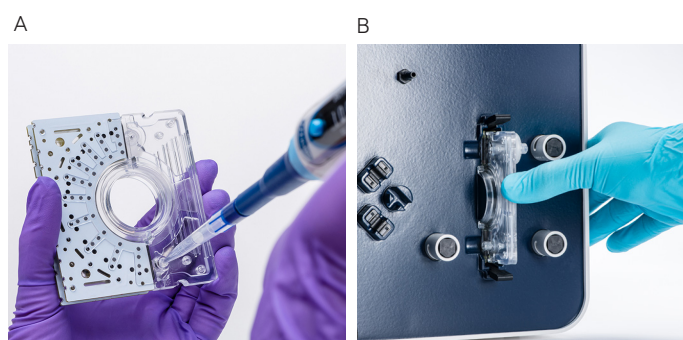

Figure 2.39: A volume of 1 mL is required to completely fill the cuvette. Using a higher or lower volume may lead to errors.
1. Fill the 1 mL Nucleocuvette® Cartridge with 1 mL sample. For filling hold cartridge in a slight angle as shown in (figure 2.39 A). The sterile filter on the rear side should be at the top, the injection port should be at the bottom (upon pipetting cartridge will be filled from bottom to top). Insert the pipette tip approximately in a 90° angle.
2. Insert the filled cartridge into the slot until it snaps in (Figure 2.39 B). Make sure that upper and lower snap mechanism audibly engages to allow for proper contacting.
- Aspirate the transfected sample via the port (see figure 2.39 A) and transfer cells into culture. Optionally you may wash the cartridge with medium to aspirate residual liquid.